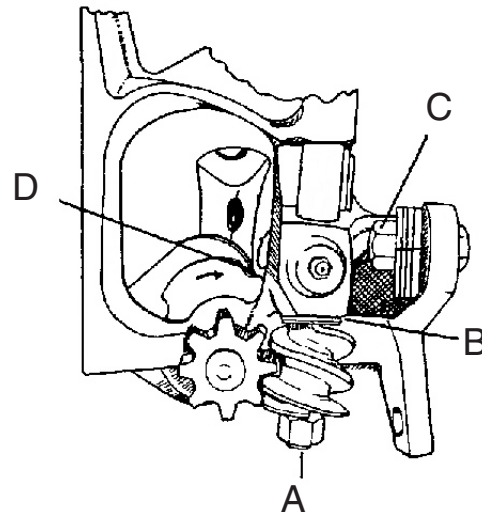

Figure 115. Knotter
The twine holder holds the twine in the twine disc while the bale is being made and tied. The pressure is regulated by bolt (C) (see Figure 115).
Be sure the twine disc cleaner is free. Adjust the twine disc notch so the left-hand side of the notch is even with the cleaner (D) (see Figure 115). Do this by loosening nut (A) several turns. Tap the nut end of the shaft to loosen the worm. After the disc is set, turn the worm against the spacer washers (B) (see Figure 115), and tighten the nut. After the knotter has completed one cycle check the notch setting again.